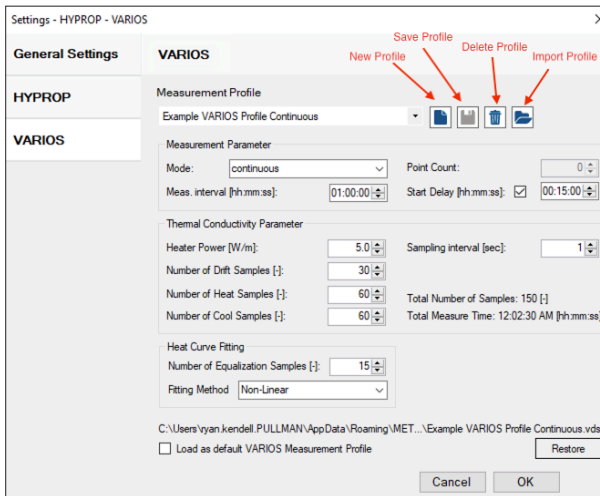

Figure 29 Generating a customized profile
3. Press the Save Profile button to enter a profile name and store it (Figure 29).